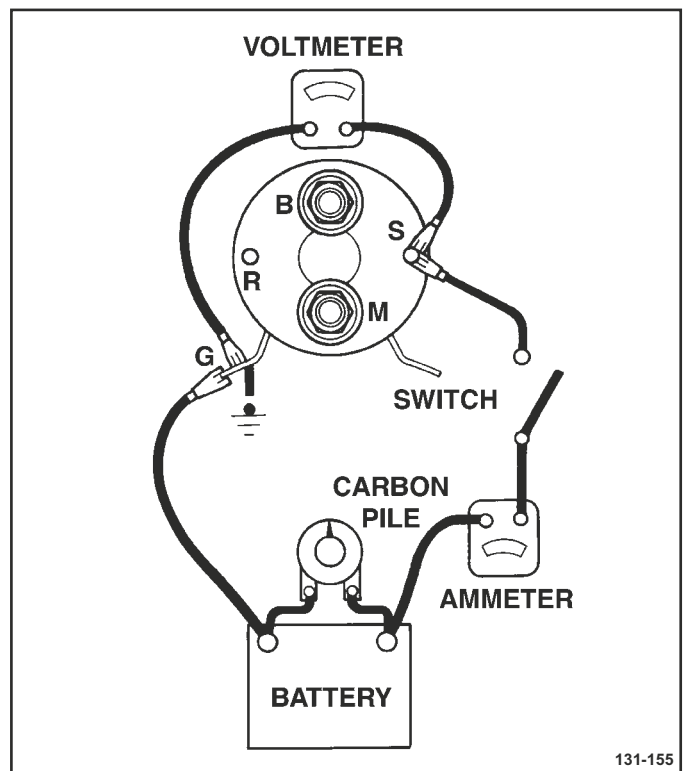

Figure 4-18 Testing Solenoid Windings
- To check hold-in winding, connect an ammeter and switch in series with a 12-volt battery and the "switch" terminal on the solenoid. Connect a voltmeter to the "S" terminal and to ground. Connect carbon pile across battery. Adjust the voltage to 10 volts and note the ammeter reading. Refer to figure 4-18.